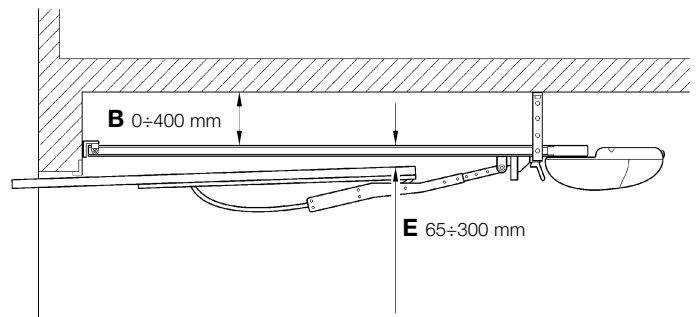

Figure 9
• Make sure that distance [E] in Figure 9, i.e. the minimum distance between the upper side of the guide and the maximum point reached by the upper edge of the door, is no shorter than 65 mm and no longer than 300 mm, otherwise GD0 cannot be installed.